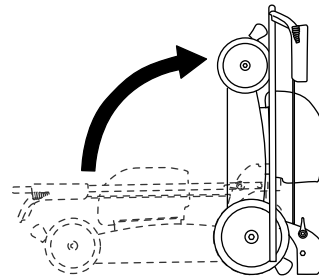

Figure 19
6. Lift the front of the machine by the handle and move it into a storage space (Figure 19).